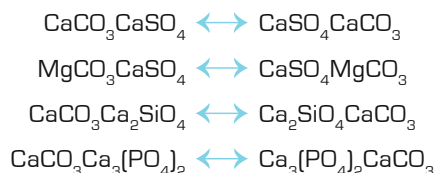

fig. 5
**FILTERSORB® SPA** split these two ions and join any kind of anions as shown in figure 5.